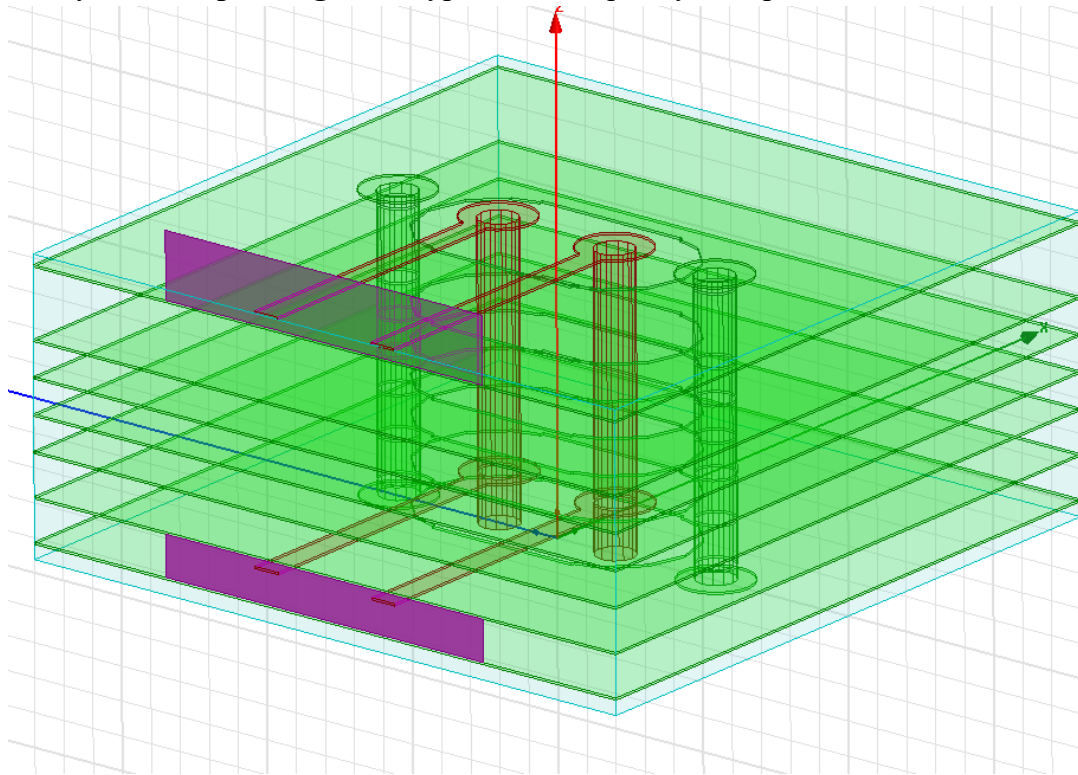

Figure 6 One microstrip line port and one stripline port
3. You should have one **microstrip line port** and one **stripline port**; each is defined with three pieces of conductors: two signal traces and their common ground plane as shown in Figure 6.